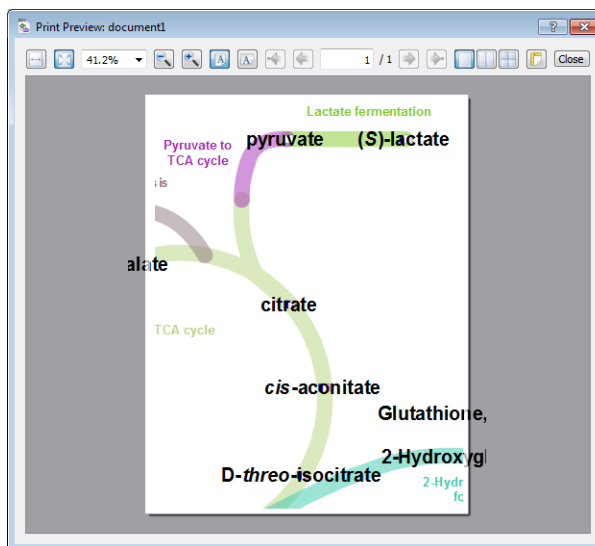

Figure 146 Preview view of your network diagram
- m Click **Preview** to review the output before sending it to your system printer (Figure 146). The clipping is fit to the page, and if there is room on the page additional elements from your network diagram are also added to the clipping.